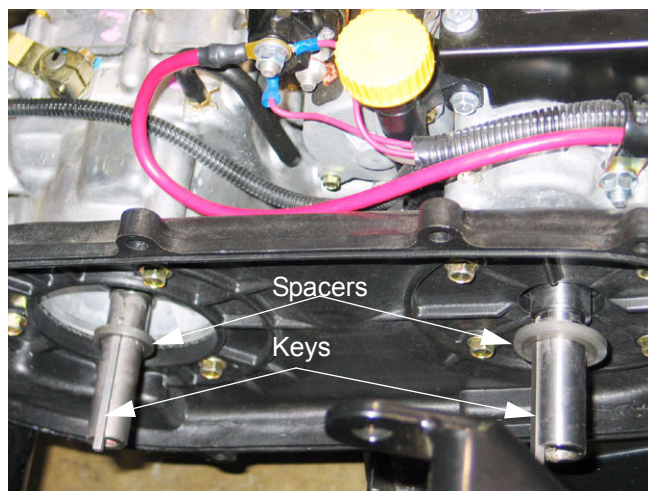

Figure 5.58
5.58. The CVT housing connects the engine to the transaxle. It can be removed using a 12 mm wrench. See Figure 5.58.